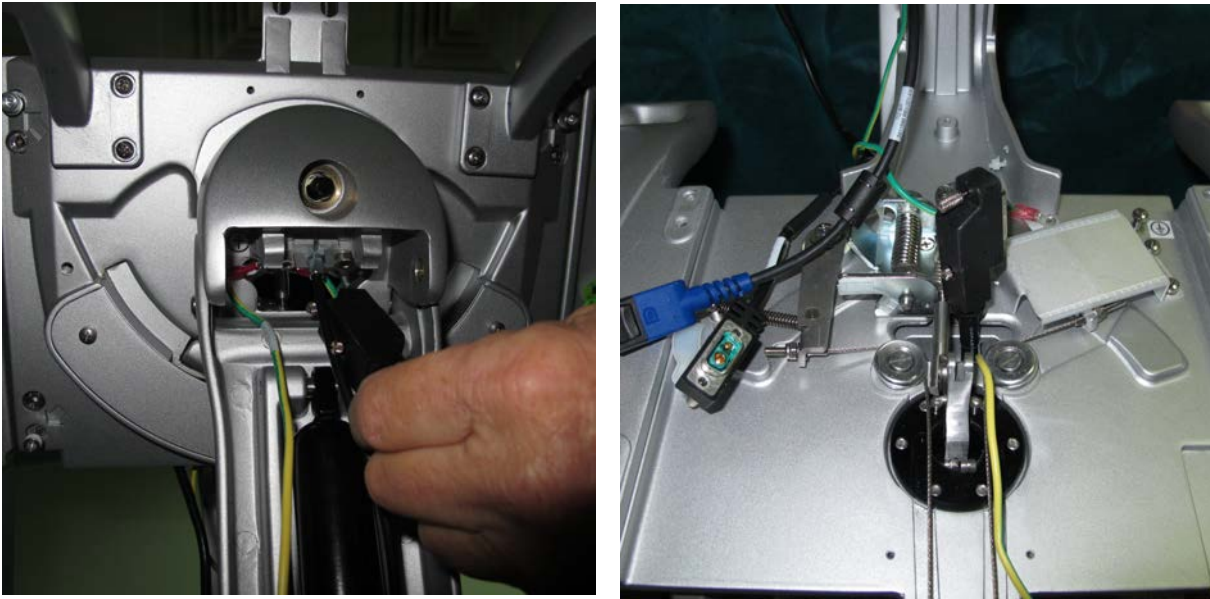

Figure 8-98 Feeding the OPIO-to-BIF Cable through the OPIO Aperture
- 6.) Thread the OPIO to BIF cable from below the OPIO platform to emerge above the platform - see Figure 8-98 below.